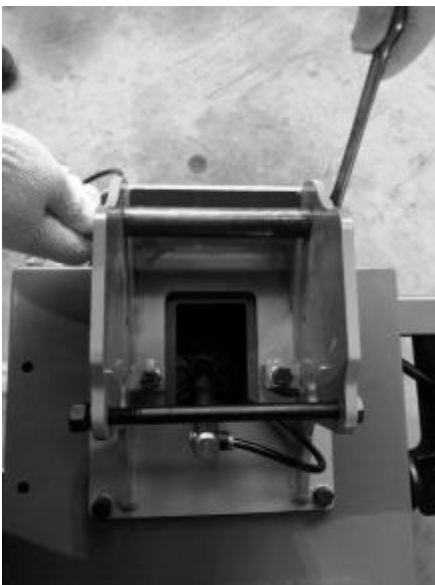

Fig 4
- ◆ The first step: Remove the Tilt Tower Main Pivot from the Tilt Tower Base before starting as shown in Fig. 4